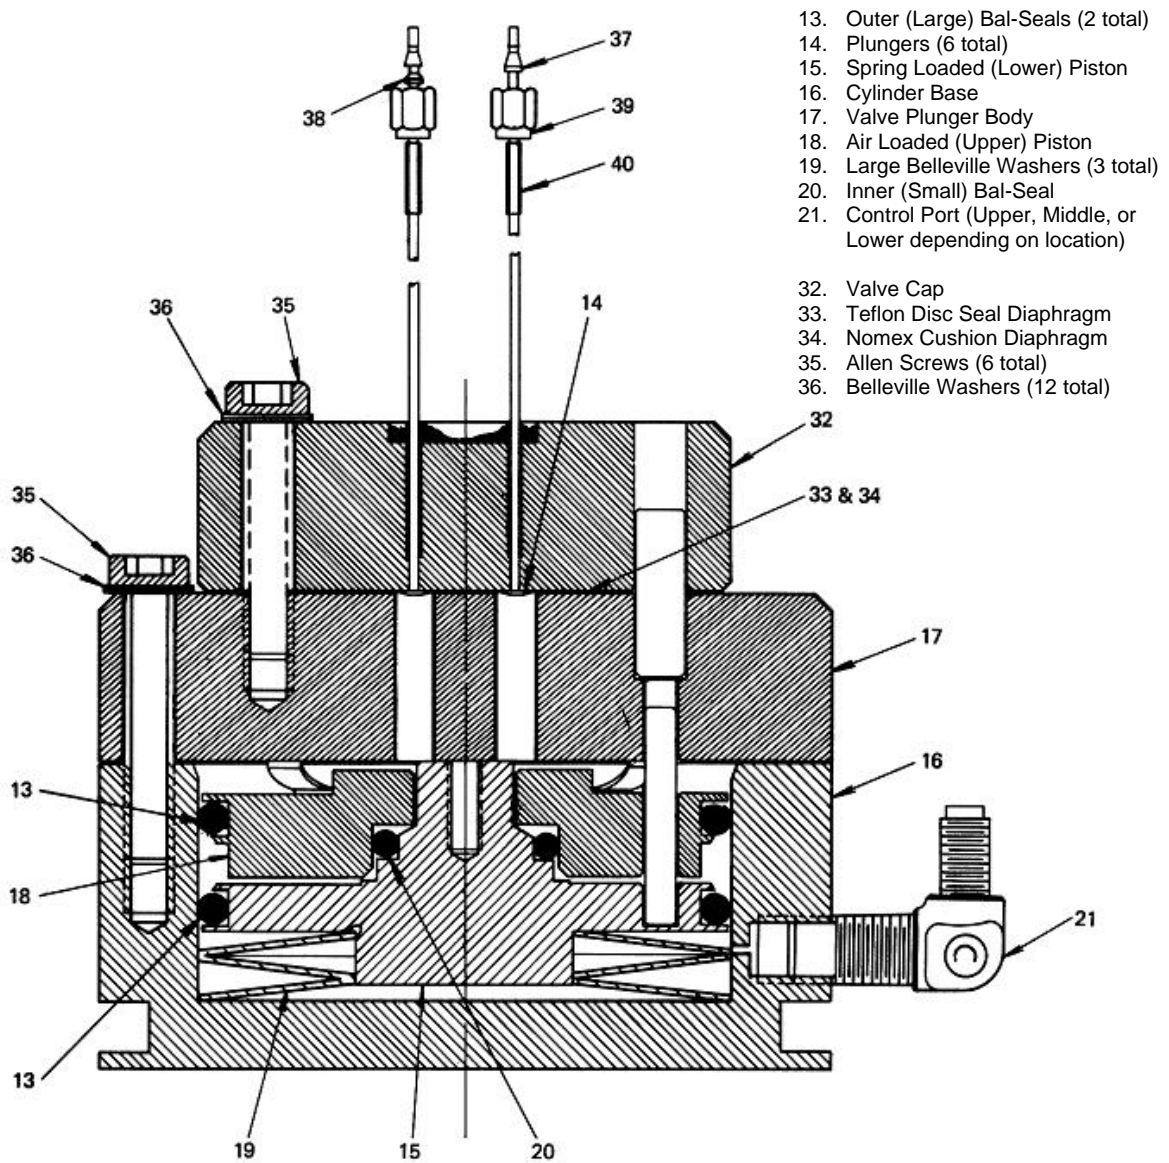
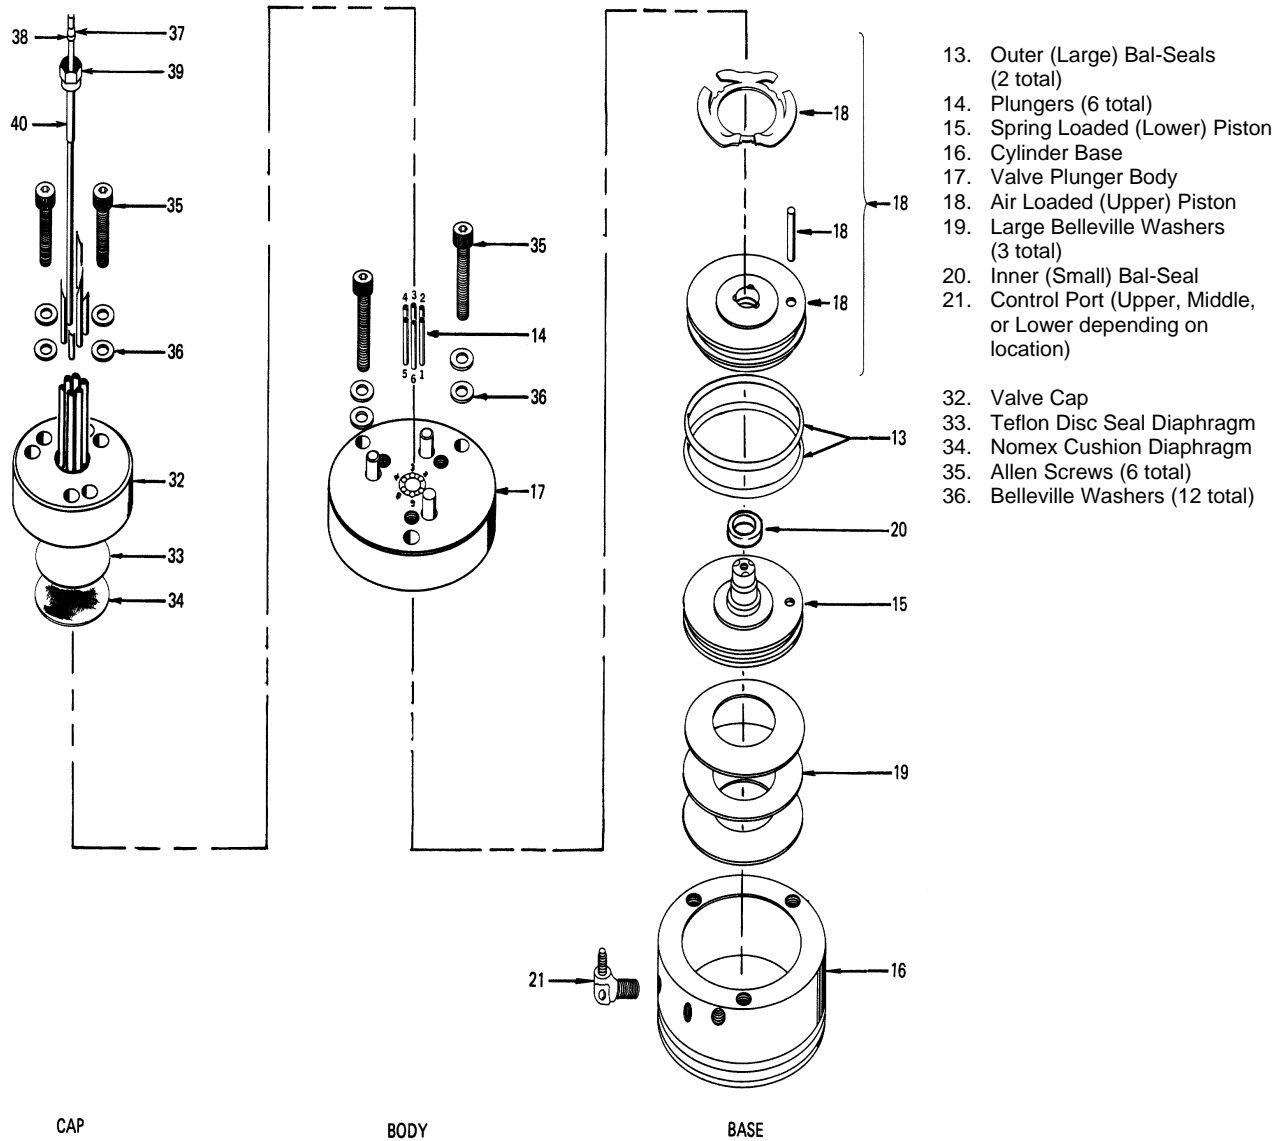
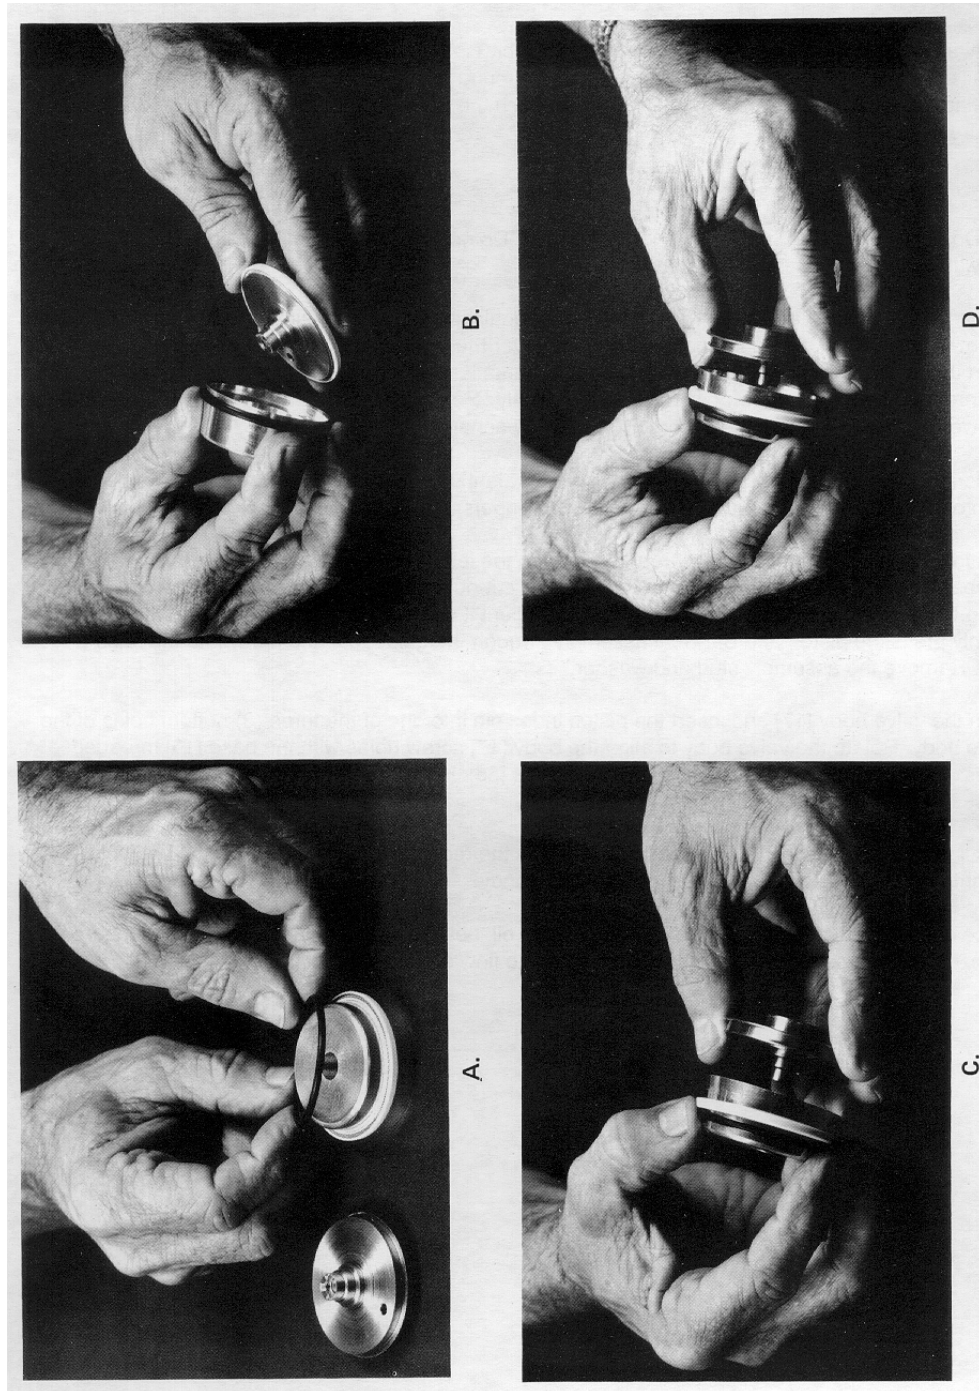

Figure 4-31: Section View of Model 20 HTV
Figure 4-32: Exploded View of Model 20 HTV
Figure 4-33: Assembling Bal-Seal (13) on Piston (15)
Escaping air from valve vent hole indicates a ruptured diaphragm (33), which must be replaced. Check for liquid substances escaping from the vent hole. Refer to Figure 4-31.
Improper lubrication and/or contamination of Bal-Seals will increase friction on valve-actuating piston. This causes valve switching to be erratic, slow or inoperative. Refer to Figure 4-31.
The following procedures should be followed for performing Mini-Maintenance on the Model 20 HTV. Refer to Figure 4-31 and 4-32.
8.	Place the actuator assembly upright on a clean lint free cloth surface. Refer to Figures 4-31 and Figure 4-32.
12.	Install the three large Belleville washers (19) in cylinder valve base (16). Washers must be positioned in an alternating bevel up, bevel down manner (to form a spring). Refer to Figures 4-31 and 4-32.
13.	Apply a bead of Krytox 240 AC lubricant, or equivalent, in Bal-Seal grooves of spring loaded piston (15)
14.	Lubricate outside diameter of assembly tool (Part Number A00145). Be certain spring-loaded Bal-Seal (13) is properly oriented with the associated spring facing up.
15.	Using an "O" ring as a cushion, push spring loaded Bal-Seal (13) down on the assembly tool until it snaps firmly into spring loaded piston (15) ring groove. Refer to Figure 4-33.